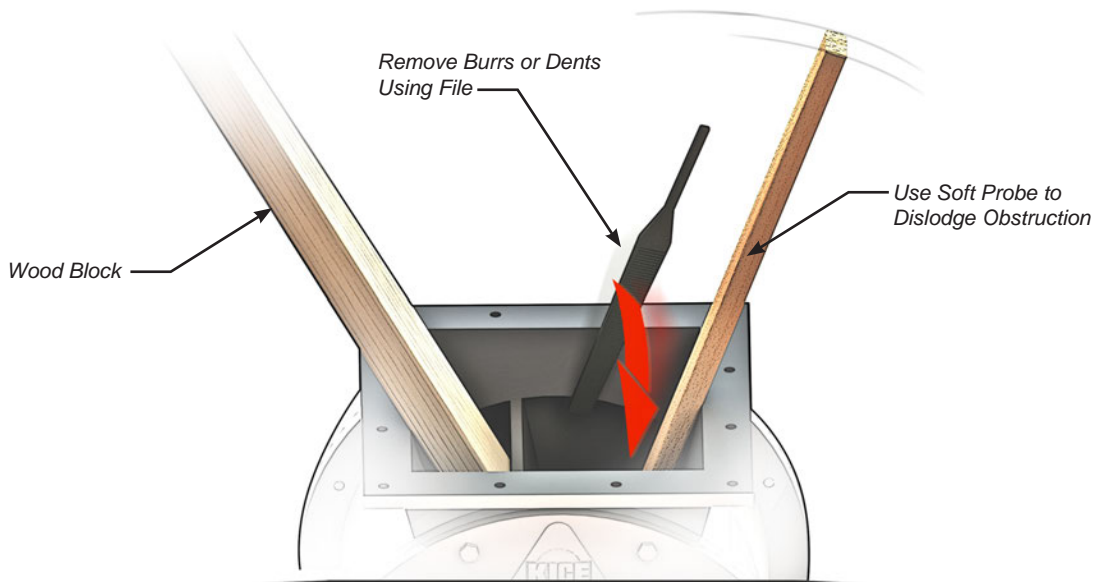

FIGURE 7
3. Place a block in the airlock to prevent the rotor from turning unexpectedly (Figure 7).